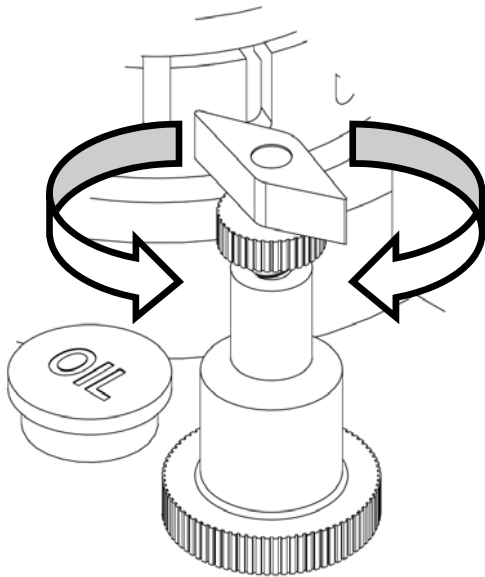

Figure 9 Manual Pressure Control Valve, Clockwise to Increase Pressure, Counter-clockwise to Decrease Pressure
1. Locate and loosen the locking ring below the "T" handle on the pumps external pressure regulator. Then turn the "T" handle counter clockwise until it turns freely. (See Figure 9)